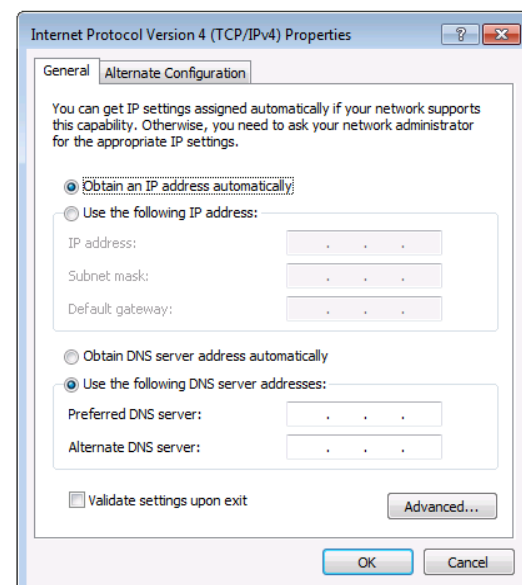
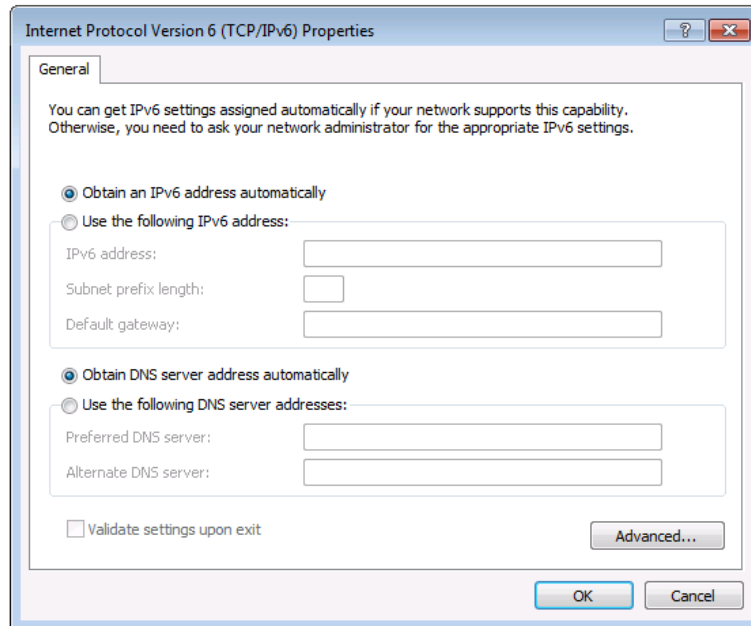

Figure 10: Internet Protocol Version 4 Properties Window
Figure 11: Internet Protocol Version 6 Properties Window
5. Click **Properties**. The Internet Protocol Properties window relevant to your IT system appears as shown in Figure 10 or Figure 11.